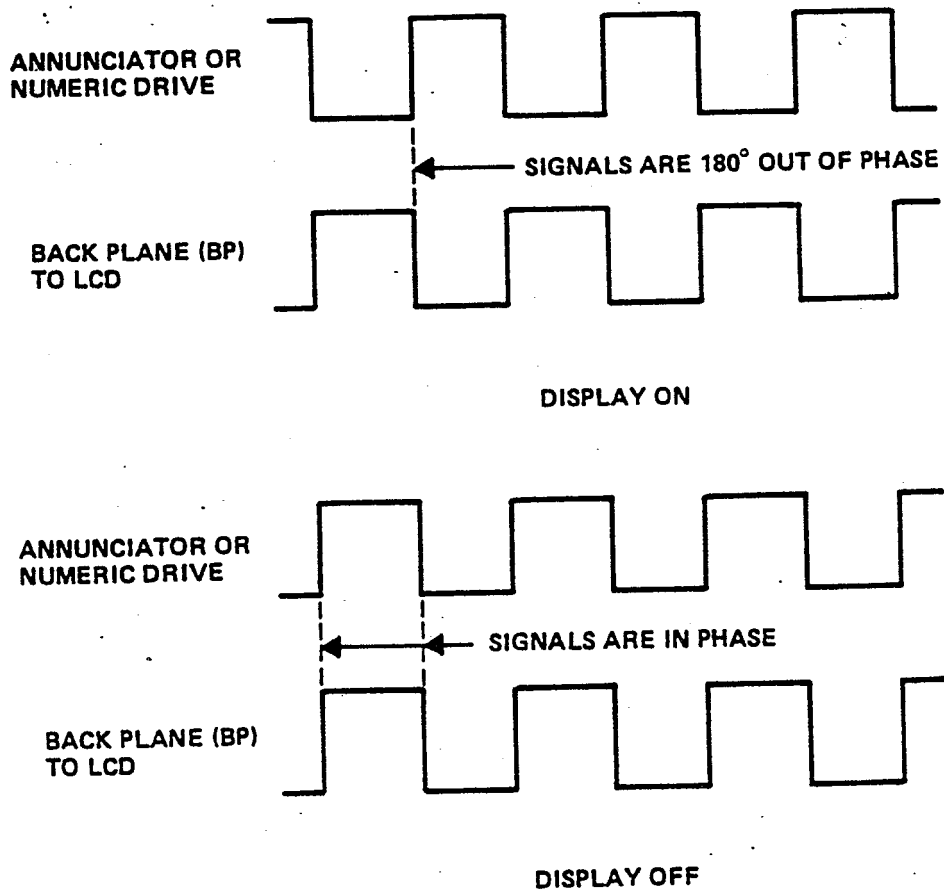

Figure 4-18. Liquid Crystal Display Control Signals.
Timing to the line drivers is provided by strobe signals from BCD to decimal decoder U50 while the 7-segment drivers receive timing from 4-bit latch and decoder U35. These two decoders receive their input from binary counter U51. The clock pulse (CP) for U51 is derived from three strobes S7, S11 and S15 combined by NOR gate U48A. Decoder U35 is controlled by inversion of strobe S7 through U48B while U50 is timed by strobe S15 through inverter U56. When a strobe signal in program time enables a line driver or 7-segment driver, the data at its input port is latched into the driver. The 100 Hz signal on the DF or BP input of the drivers is applied to the display segments and is inverted or not inverted through control of the data input to each driver. This in turn controls whether the segment is turned on or off. Any segment of an LCD is turned on by a 180 degree difference of phase between segment input and the main backplane drive to the LCD (Figure 4-18). To turn the display segment off the phase difference between these two signals must be zero degrees; that is, the two signals must be in phase (see Figure 4-18).
5. Receiver Control Circuit Card A9. This circuitry routes data entered at the front panel, to the microprocessor bus and routes processed data from A6A2 to various receiver functions on A4, A5, A7 and A8 circuit cards. This data flow in the data bus IOD0 through IOD7 is controlled by read, write and address controls (IOC0 through IOC7) signals from the microprocessor. All data entered from the front panel except audio and IF functions described in item 3, is transferred to the